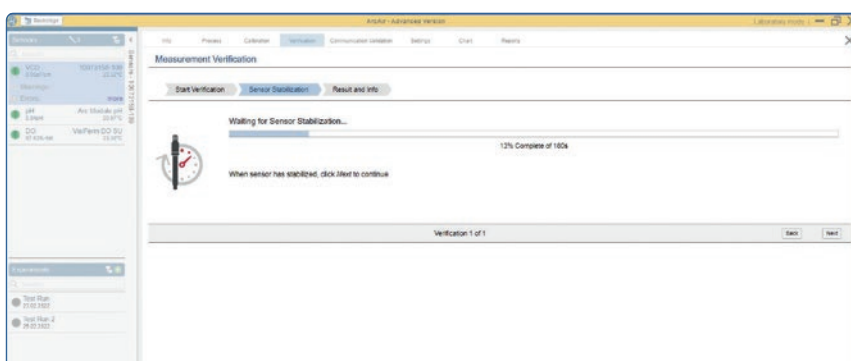

Figure 56: Sensor Stabilization.
- 6) Press «Start», the sensor will now equilibrate for 120 sec. (Figure 56)